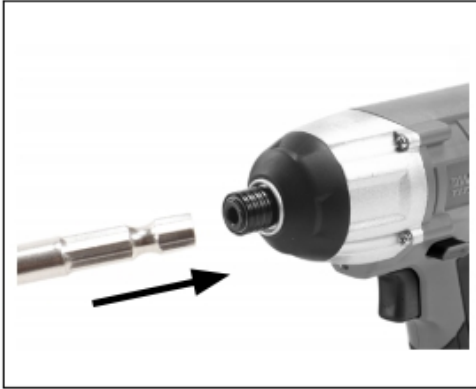

Fig.3
5.2 OPERATIONS DE LA VISSEUSE A IMPACT(FIG.3)